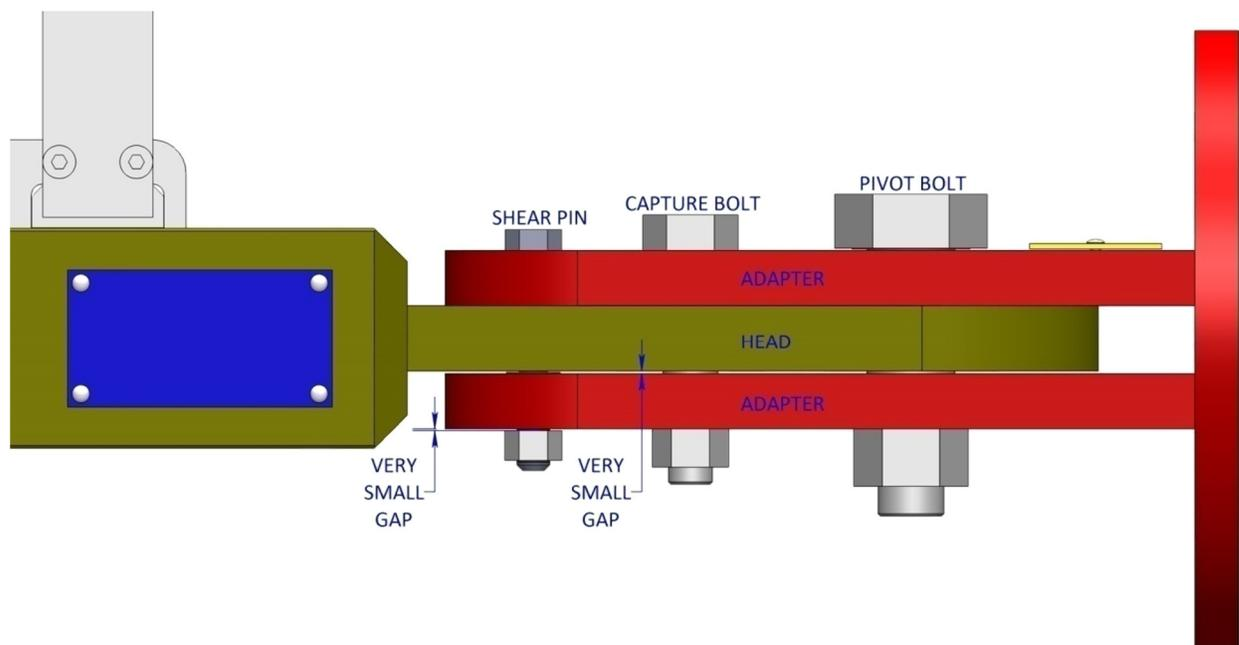

Figure 1. Inspection of shear pin and head/adapter clearance.
- 4.1.1. Shear pin should spin freely by hand and the nut should not be tight to the head. A very small gap (0.005"-0.010" feeler gage) between the nut and the head is desirable. See *Figure 1* below.
- 4.3. Check clearance between head and adapter. With the shear pin removed, the head must be able to slide and pivot within the adapter plates by hand, but sometimes with some difficulty. A very small gap should exist between the head and the adapter (see Figure 1 above). Both the Capture and Pivot bolts are shoulder bolts and the nuts should be able to be tightened up to the shoulder. However, if the adapter is excessively clamping the head slightly loosen Capture and Pivot bolt nuts by 1/8 of a turn to free up the head.